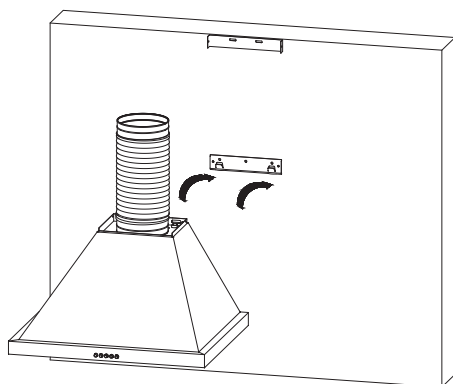

Fig.6
- Hang range hood on the installation plate. See Fig.6.